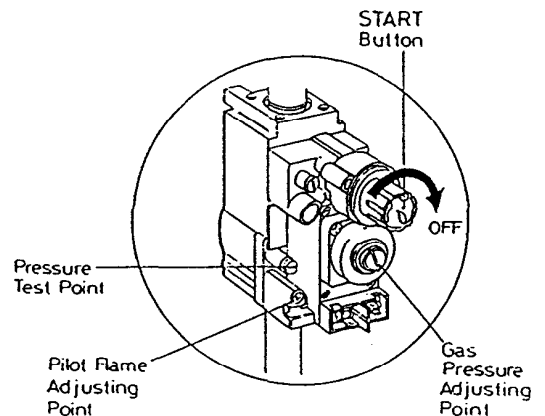

Fig. 3
- b) Remove the cover from the adjustment point on the multifunctional control (see Fig.3), release the pressure test point screw and attach a pressure test gauge.
- d) Push the START BUTTON (marked with the flame symbol) on the multi-functional control (see Fig.3) fully in and hold it in. Repeatedly push and release the lighting button until the pilot is alight. N.B. If the piezo unit should fail to spark, the pilot burner may be lit by applying a lighted taper to the pilot whilst the START BUTTON is pushed in.
- 6.9 Allow the heater to operate for 15 min., then adjust the burner pressure to the output required (see Fig.3 and Table 2).
To adjust the burner pressure, remove the cover from the gas pressure adjusting point (see Fig.3) and turn the flow rate screw clockwise to increase, anticlockwise to decrease.
Attach a gas pressure gauge to the burner setting pressure test point on the multifunctional control (see Fig.3). Light the heater, check the pressure and confirm by a gas rate check at the meter.